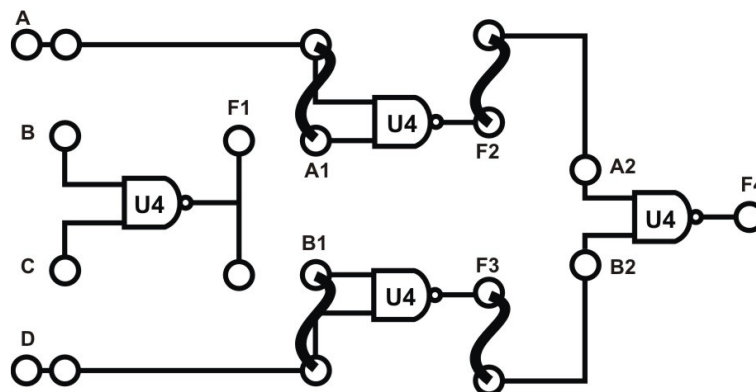

Figure 1.15: build OR gate using NAND gate using kits.
- g) From the above equation (F'') we can see that we can build OR gate using one NAND and two NOT gates. Insert connection clips according to Figure 1.15 below. Connect A to SW0; D to SW1; connect A with A1; and D with B1 and F2 to A2; F3 to B2 then connect the output F4 with L1. Follow the input sequences given below, and record the output states in Table 1.10.